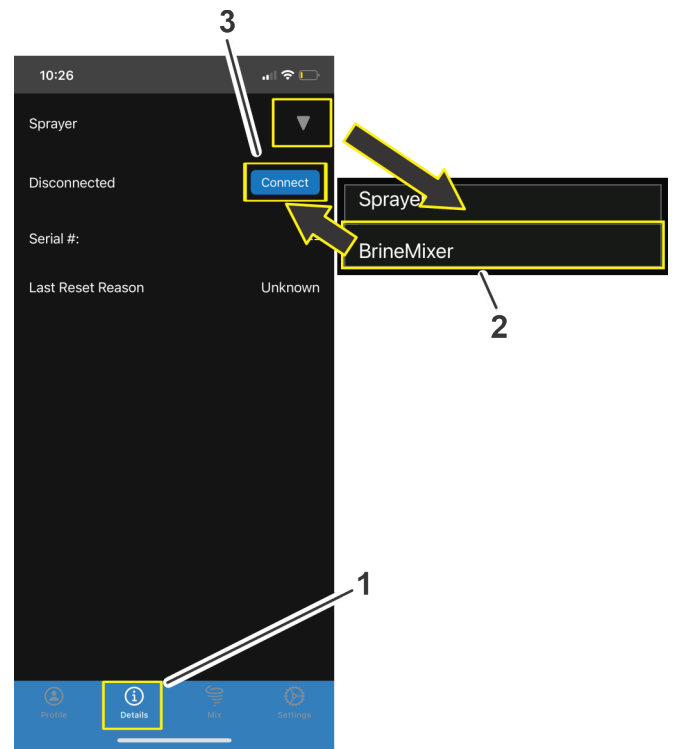

Figure 4
5. Turn the pump switch on (Figure 4).